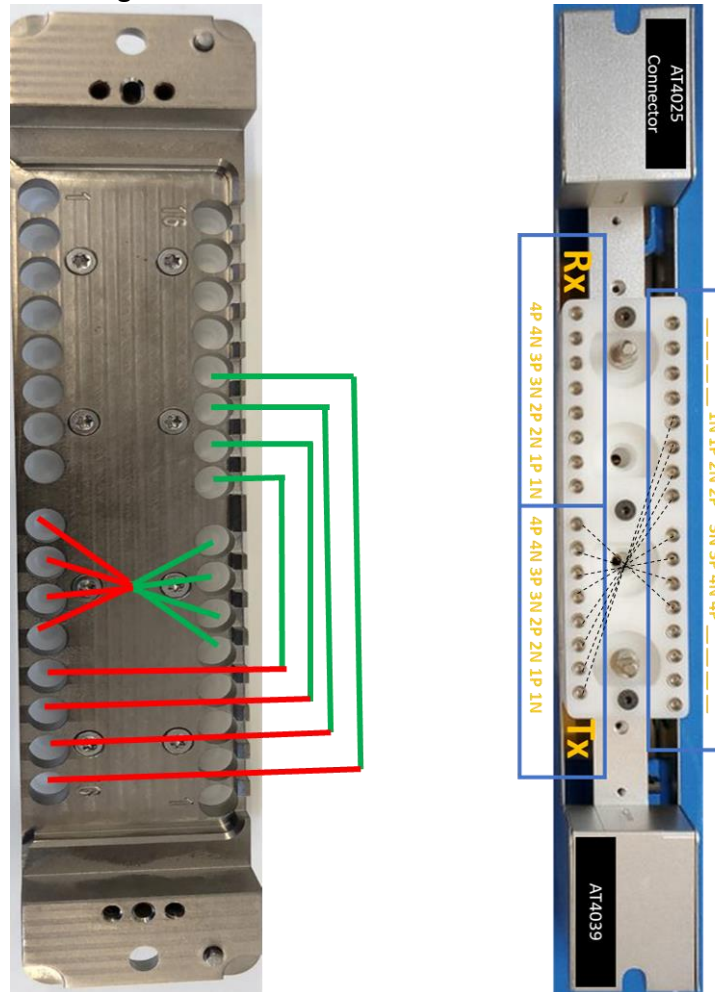
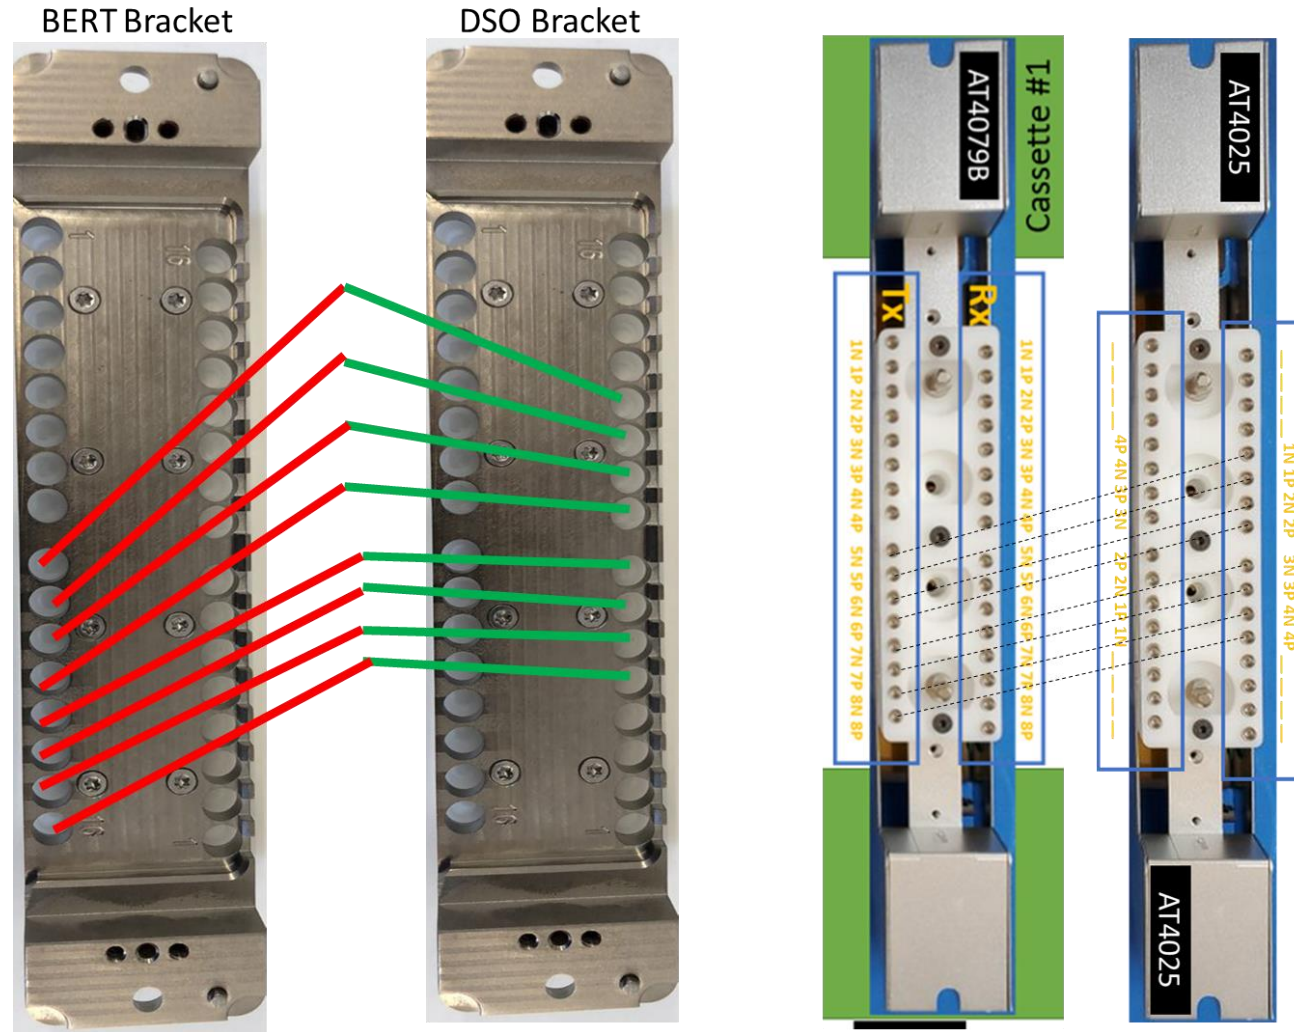

Figure 17: Example on Eye Diagram Configuration – AT4039 + AT4025
Figure 18: Example (2) of Eye Diagram Configuration – AT4079B + AT4025
- Figure 17 shows the configuration of an AT4039D (or AT4039E) signal (Tx) transmitted into the AT4025 channels (Rx) for eye diagram observation. And Figure 18 illustrates the configuration of an AT4079B with AT4025.